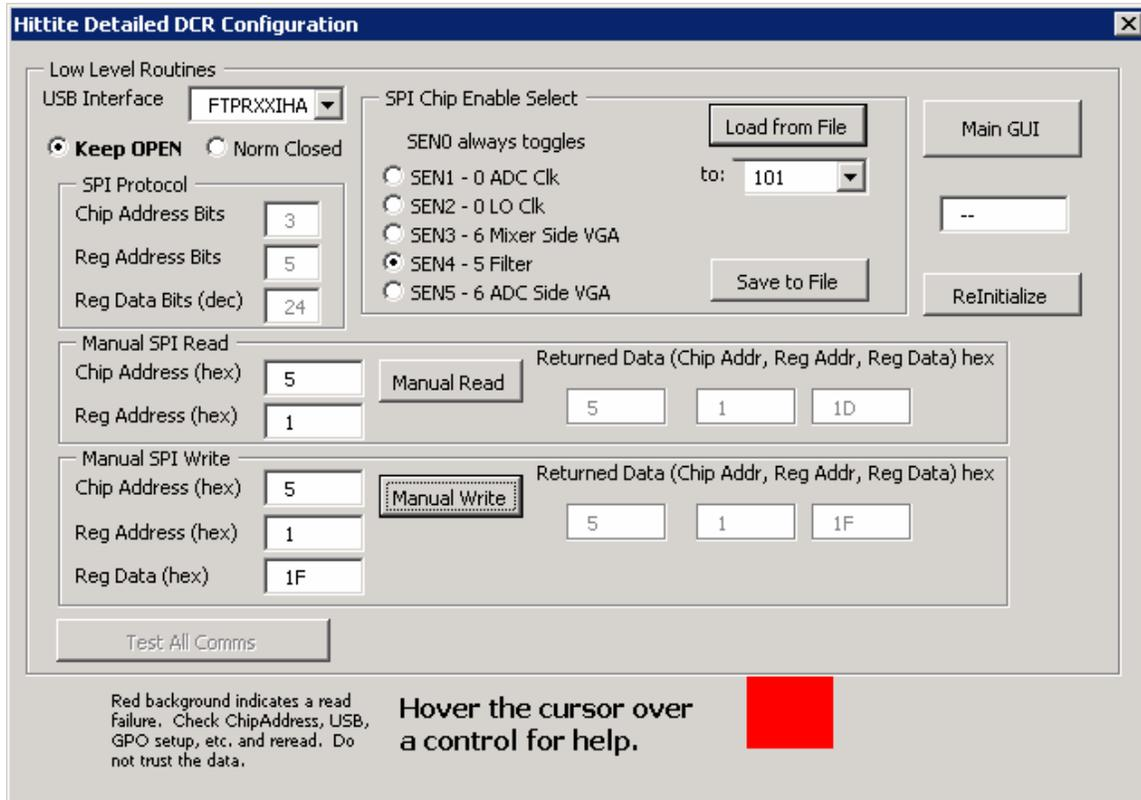

Figure 55. Read Reg01h[5] to make sure that Reg01h[5] = 0. In this case Reg01h[5] was read to be 1 and programmed to Reg01h[5] = 0.
2. Read Reg01h of HMC900LP5E (Figure 55) to make sure that the clock doubler is not enabled (It is not needed for 50 MHz clock), and to enable the RC calibration circuit.